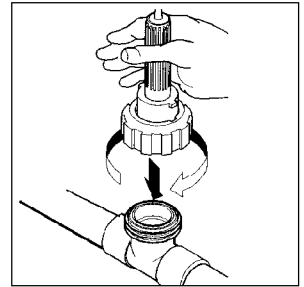

FIGURE 22
11. Reinstall pH sensor into flow assembly (see fig. 22), close sample valve and slowly open isolation valves. Important, wait 2 minutes for sensor to stabilize before continuing!
11. Reinstall ORP sensor into flow assembly (see fig. 22), close sample valve and open isolation valves.